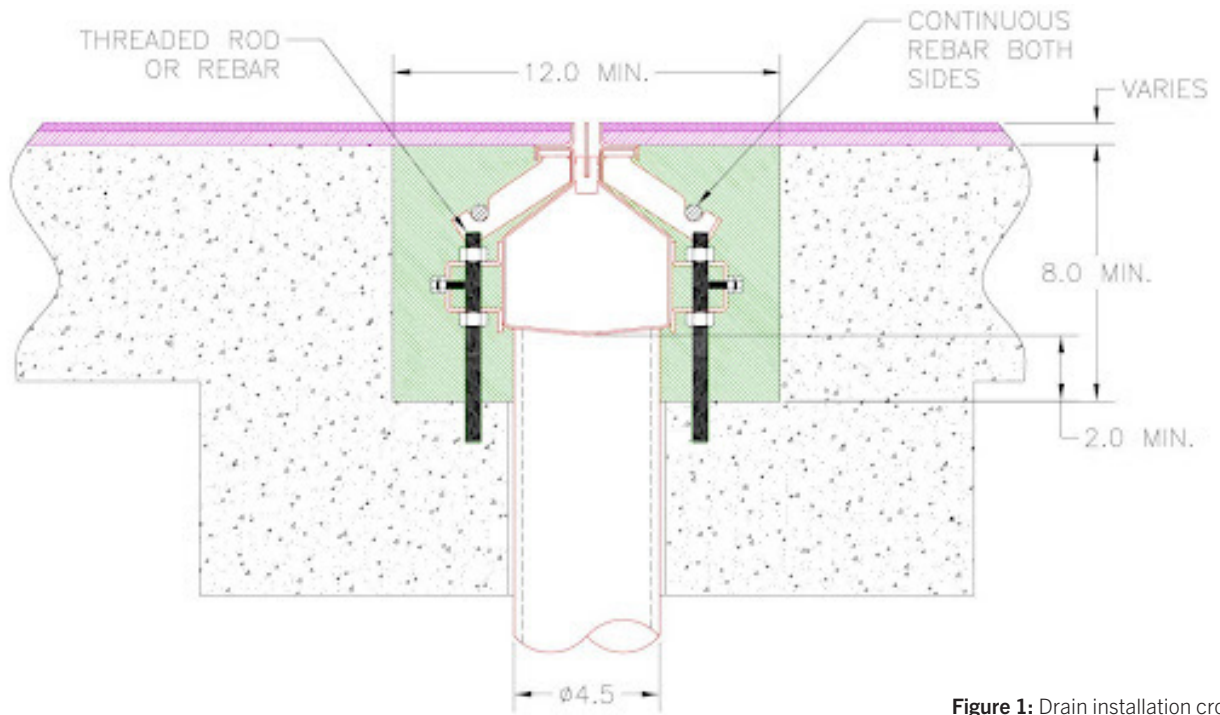

Figure 1: Drain installation cross section
1. During construction of the elevator lobby, cast a void in the lobby slab as shown within Figures 1 and 2.
3. After the concrete has cured, remove the forms from the drain area and core a hole through the bottom of the void for the drain outlet (Figures 1 and 2).